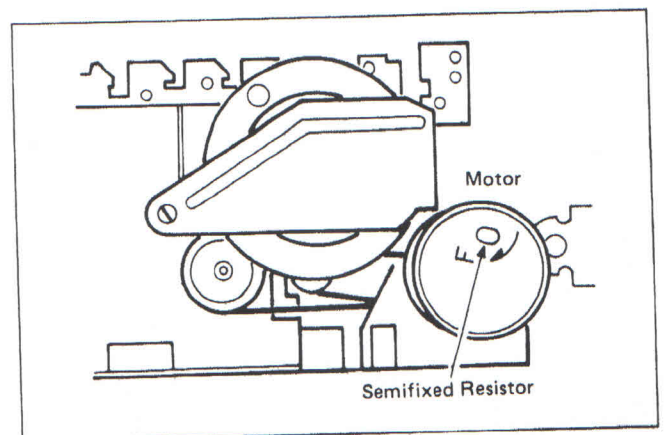

Fig. 3-10
3. If indication deviates excessively from the normal value (2985-3015Hz), correct the speed by adjusting the semifixed resistor of the motor. (Fig. 3-10)